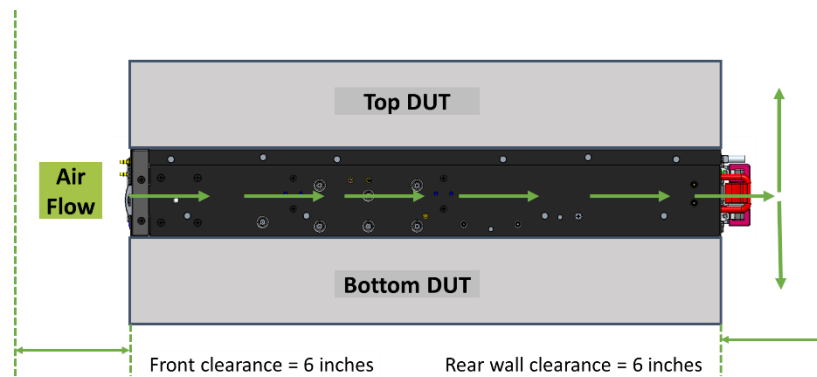

Figure 3
- Cooling: The S9311-64D has two options for airflow direction. There is a front-to-back option (Figure 3. Left) and a back-to-front option (Figure 3. Right). Make sure the equipment on the same rack have the same airflow direction.